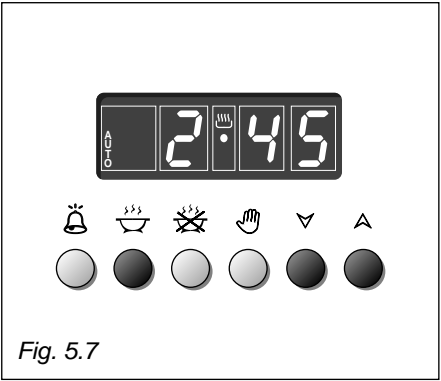

Fig. 5.7
1. Set the length of the cooking time by pushing the  button and the  button to advance, or  to go backwards (Fig. 5.7). This sets the desired "stop" time.